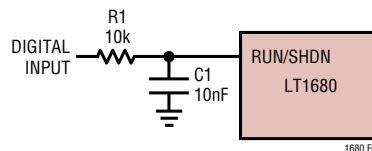

Figure 6. Digital Input Shutdown Integration Control
Figure 6 is an example of a digital control integration stage at the RUN/SHDN input. The integrator has a $\tau = (10)(10^3) \cdot (10)(10^{-9}) = (1.0)(10^{-4})$. This circuit technique, however, delays initiation of controller shutdown about 125 μ s from the reception of the shutdown signal (5V – 0V transition).